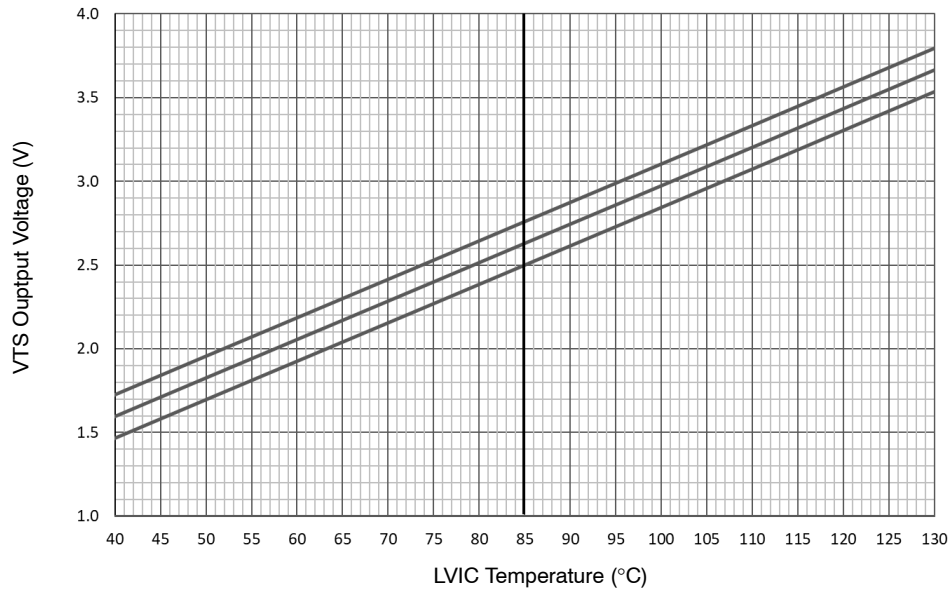
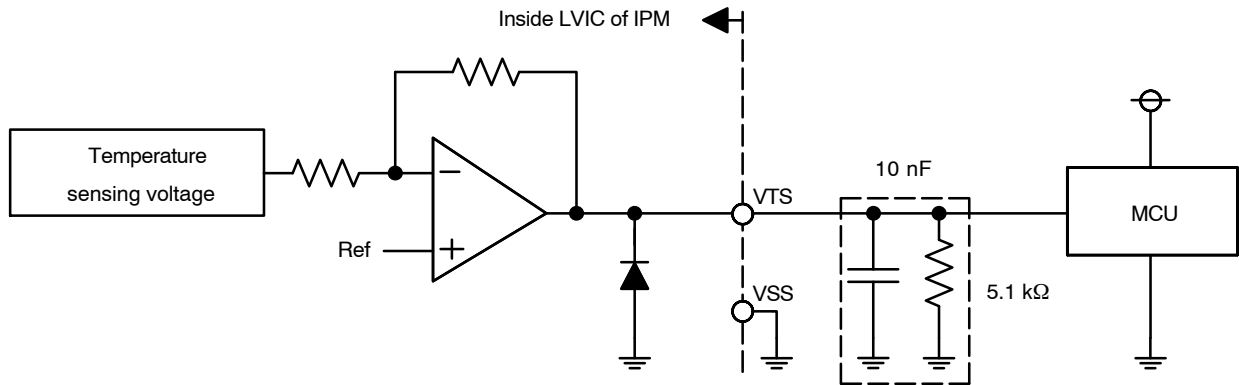

Figure 5. Temperature of LVIC versus VTS Characteristics
Figure 6. Internal Block Diagram and Interface Circuit of VTS
5. TLVIC is the temperature of LVIC itself. VTS is only for sensing temperature of LVIC and cannot shutdown MOSFETs automatically. The relationship between VTS voltage output and LVIC temperature is described in Figure 5. It is recommended to add 5.1k Ω pull down resistor between VTS and VSS (Signal Ground) as described in Figure 6 for linear output characteristics at low temperature. To reduce noise, 10 nF cap is recommended as well. Refer to the application note for usage of VTS.